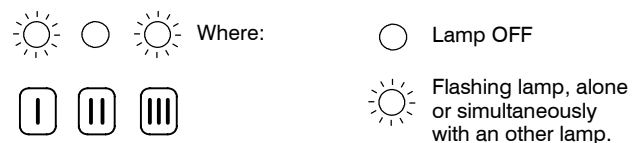

Fig. 38
- 7 Keep pressed the reset button C for about 5 seconds until the lock-out signal lamp D is switched OFF. The boiler runs in c.h. mode and the lamps E give the indication as in Fig. 38.